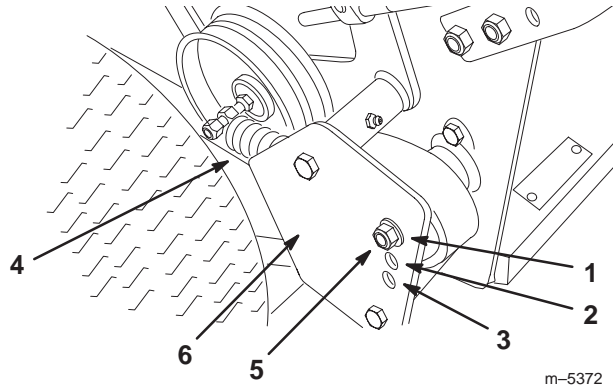

Figure 17
4. Remove the drive spring from the adjustment bolt (Fig. 17).
5. Remove the locknut that secures the adjustment bolt to the drive pulley shield (Fig. 17).
Note: The wheel drive tension is lowest when the bolt assembly is in Position A. The tension increases in Positions B and C (Fig. 17).